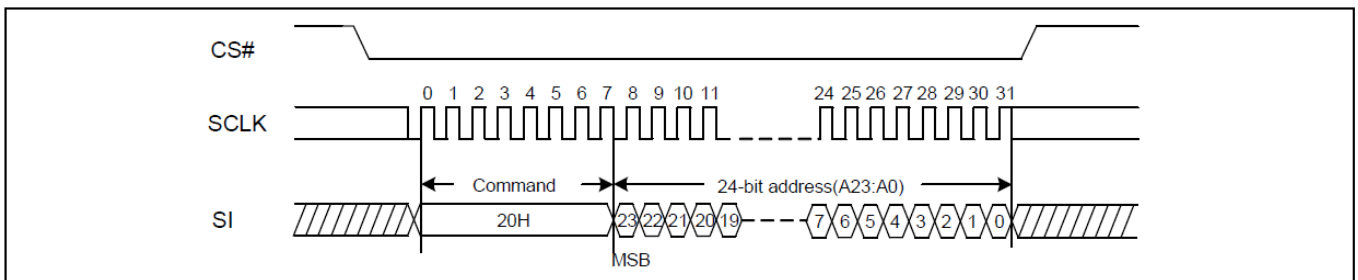

Figure8. Sector Erase Sequence Diagram
The Sector Erase command sequence: CS# goes low → sending Sector Erase command → 3-byte address on SI → CS# goes high. The command sequence is shown in Figure8. CS# must be driven high after the eighth bit of the last address byte has been latched in; otherwise the Sector Erase (SE) command is not executed. As soon as CS# is driven high, the self-timed Sector Erase cycle (whose duration is  $t_{SE}$ ) is initiated.